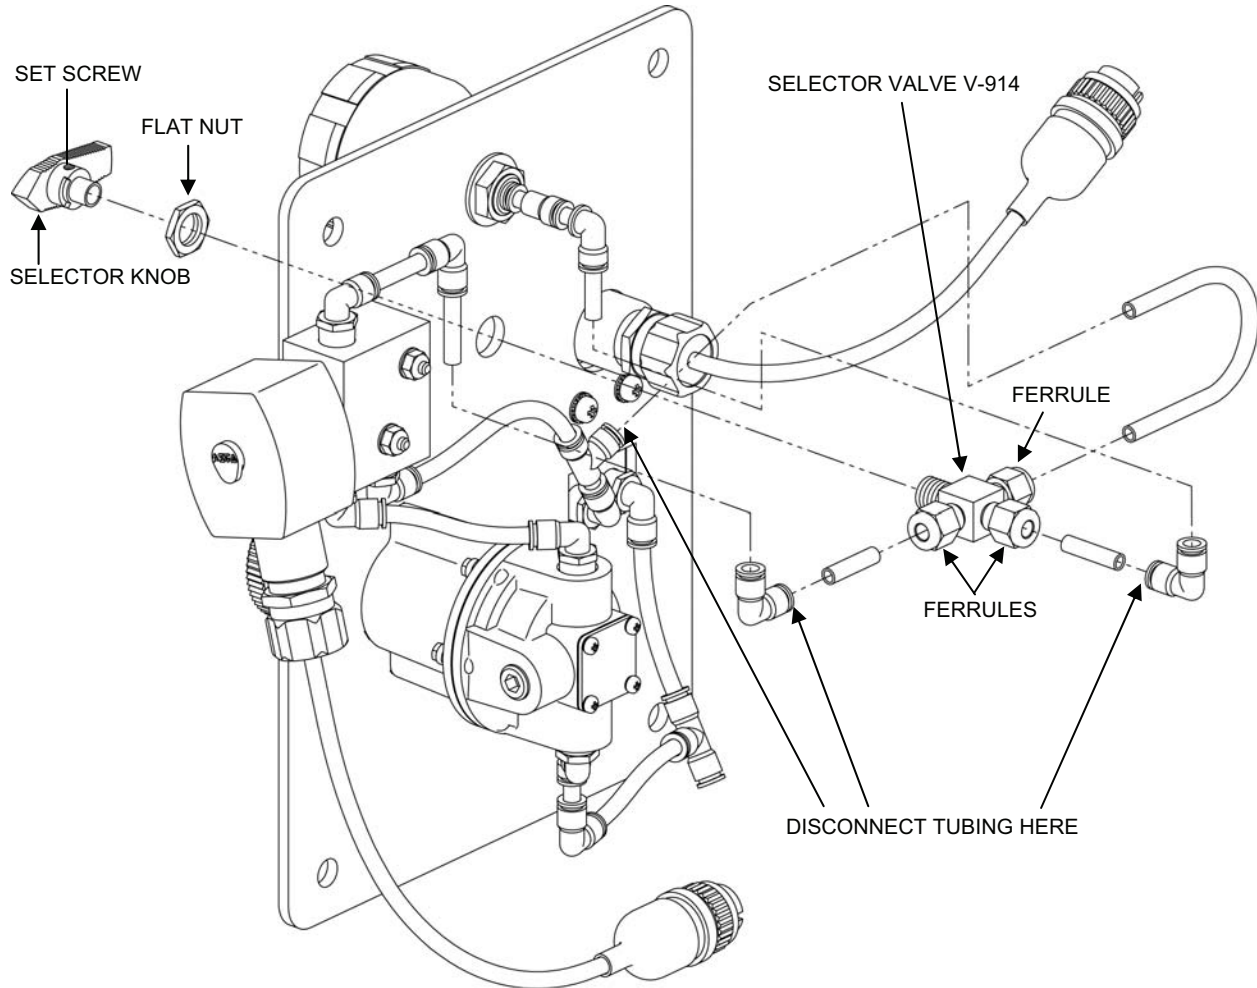

Figure 6. Feed Control Selector Valve V-914.
1. Remove Feed Control Selector Valve V-914 from the feed flow control panel assembly as follows (see Figure 6):